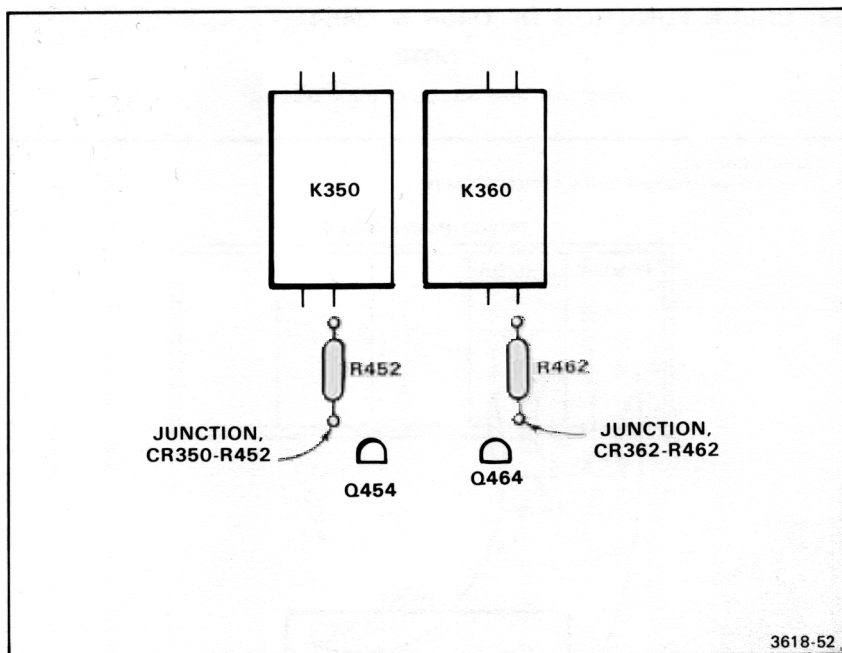

Figure 5-7. Location of junctions, CR350-R452 and CR362-R462
Momentarily touch the test lead, from the PS503A Red 0-20 V terminal, to the junction of CR350 and R452. (Fig. 5-7 shows the location of this point).
- k. Momentarily touch the test lead, from the PS503A Red 0-20 V terminal, to the junction of CR362 and R462. (See Fig. 5-7.)